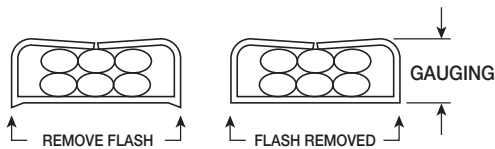
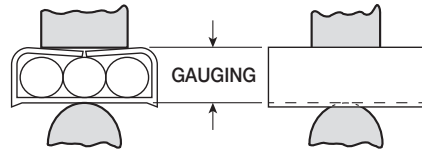

Figure 3
Figure 4
gaging pins. (Refer to table 1, figure 3 and figure 4, for specific wire combinations and only use copper.)
2. Measure connector gaging with a standard micrometer. The gaging surfaces of the connector are illustrated in Figure 3.
Measure connector gaging with a ball micrometer, or equivalent, having a spindle diameter of 0.250. The gaging surfaces of the connector are illustrated in Figure 4.